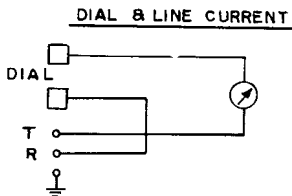

FIGURE 3. Input Circuit
**3.04** A schematic of the input circuit for the three modes of the test set are shown in Figures 3, 4, and 5.